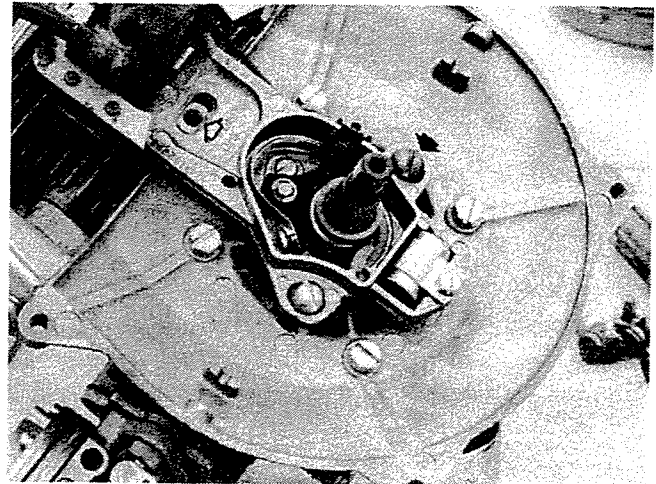

Figure 15. Removing Stator Plate and Coil.
3. Remove plate with coil by removing three (3) screws. Figure 15.